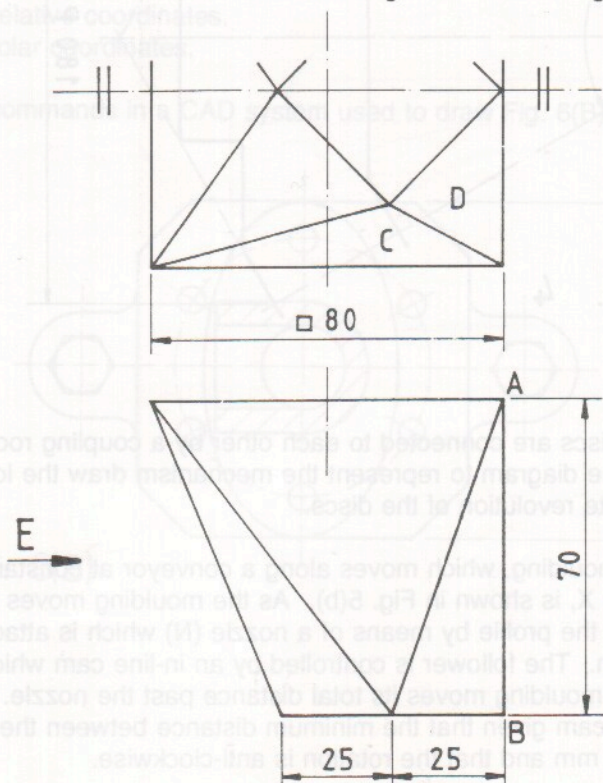

FIG 2
2. The elevation and plan of a square to square transition piece are shown in Fig. 2.